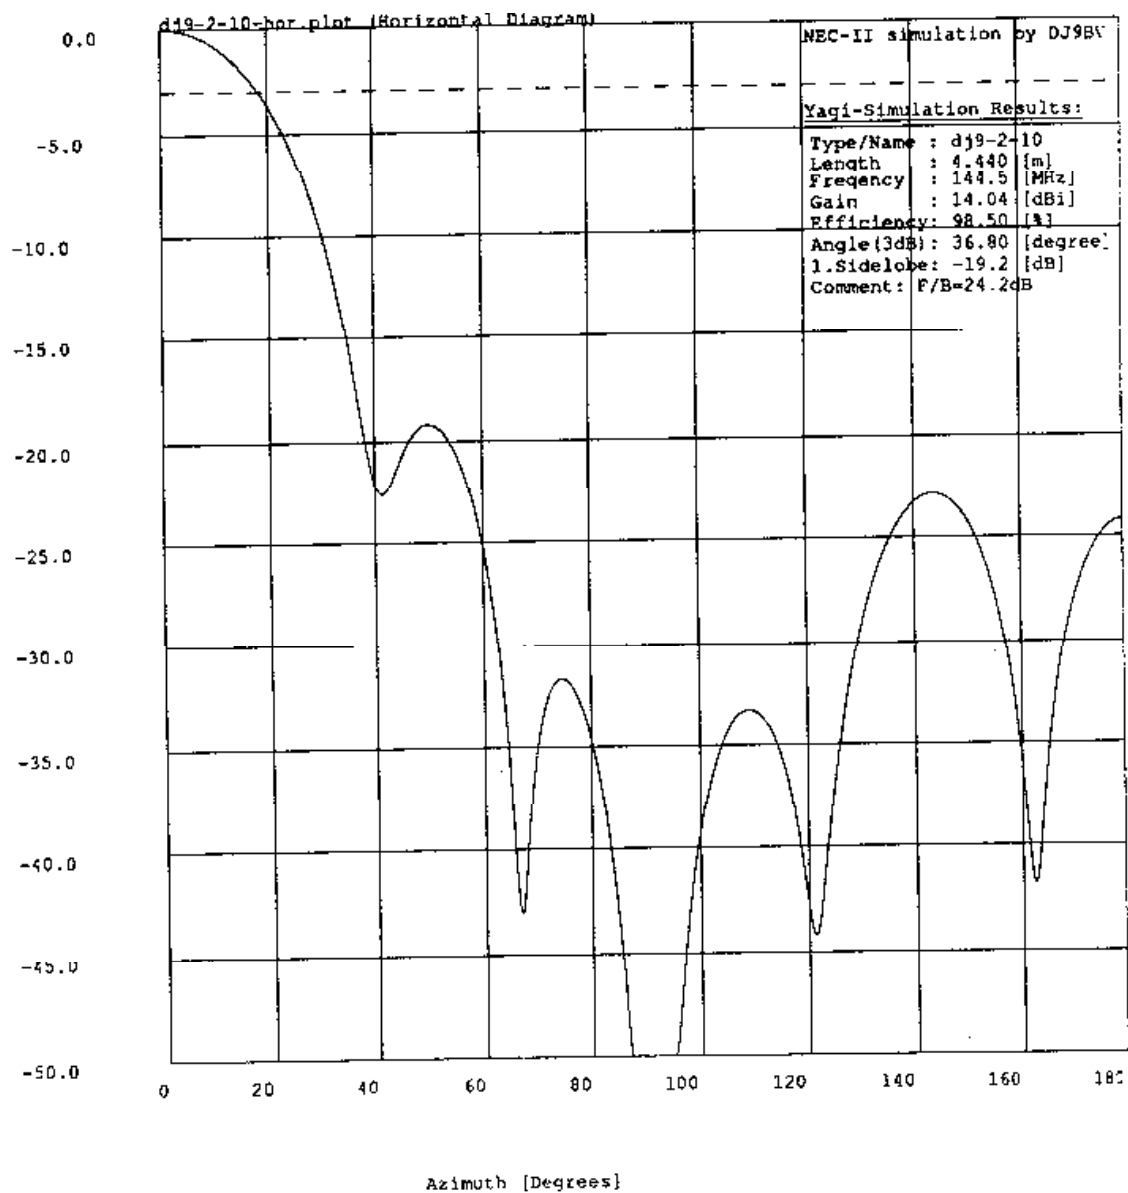

Bild 5/Figure 5 : Horizontal Diagramm/Pattern DJ9-2-2.1
- Pattern with low sidelobes. See figures 5 to 9.
The NEC-II simulation software ([2]) has been used to fine tune the dimensions for even higher gain and lower sidelobes, especially for the back lobe level. The results justify this approach. Gain is better than any commercial antenna on the market (see figure 1) and patterns are superior (See figures 5 - 9). So the home builder can take advantage of this design and will be able to construct one of the finest antenna systems possible.